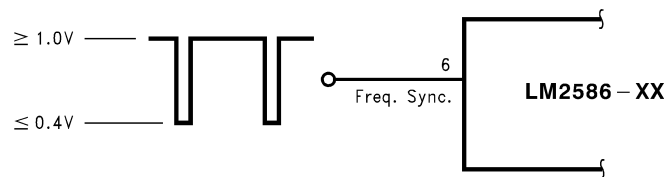
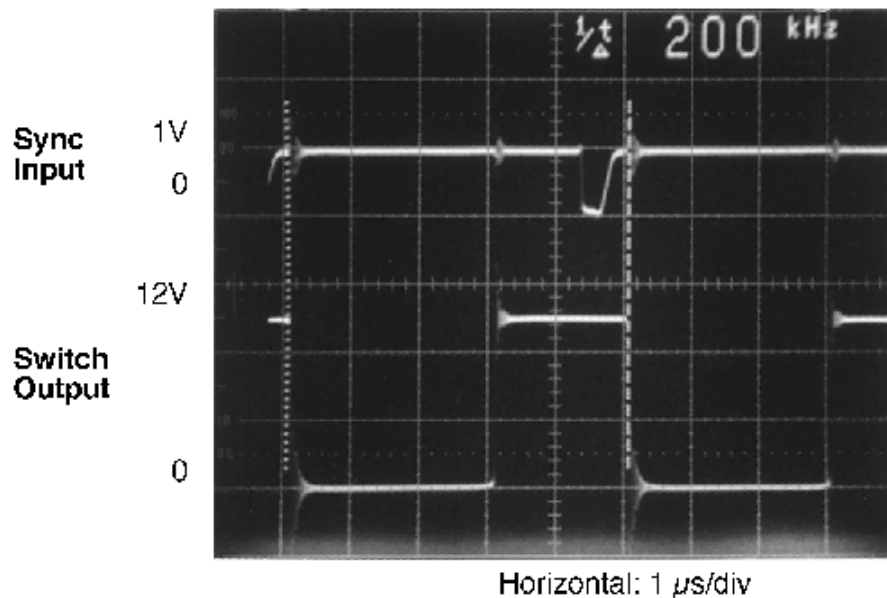

Figure 24. Frequency Synchronization
Figure 25. Waveforms of a Synchronized 12-V Boost Regulator
(7) When testing the minimum value, do not sink current from this pin— isolate it with a diode. If current is drawn from this pin, the frequency adjust circuit will begin operation (Figure 25).
A negative falling pulse applied to the sync pin will synchronize the LM2586 to an external oscillator (see Figure 24 and Figure 25).
The scope photo in Figure 25 shows a LM2586 12-V boost regulator synchronized to a 200-kHz signal. There is a 700-ns delay between the falling edge of the sync signal and the turning on of the switch.